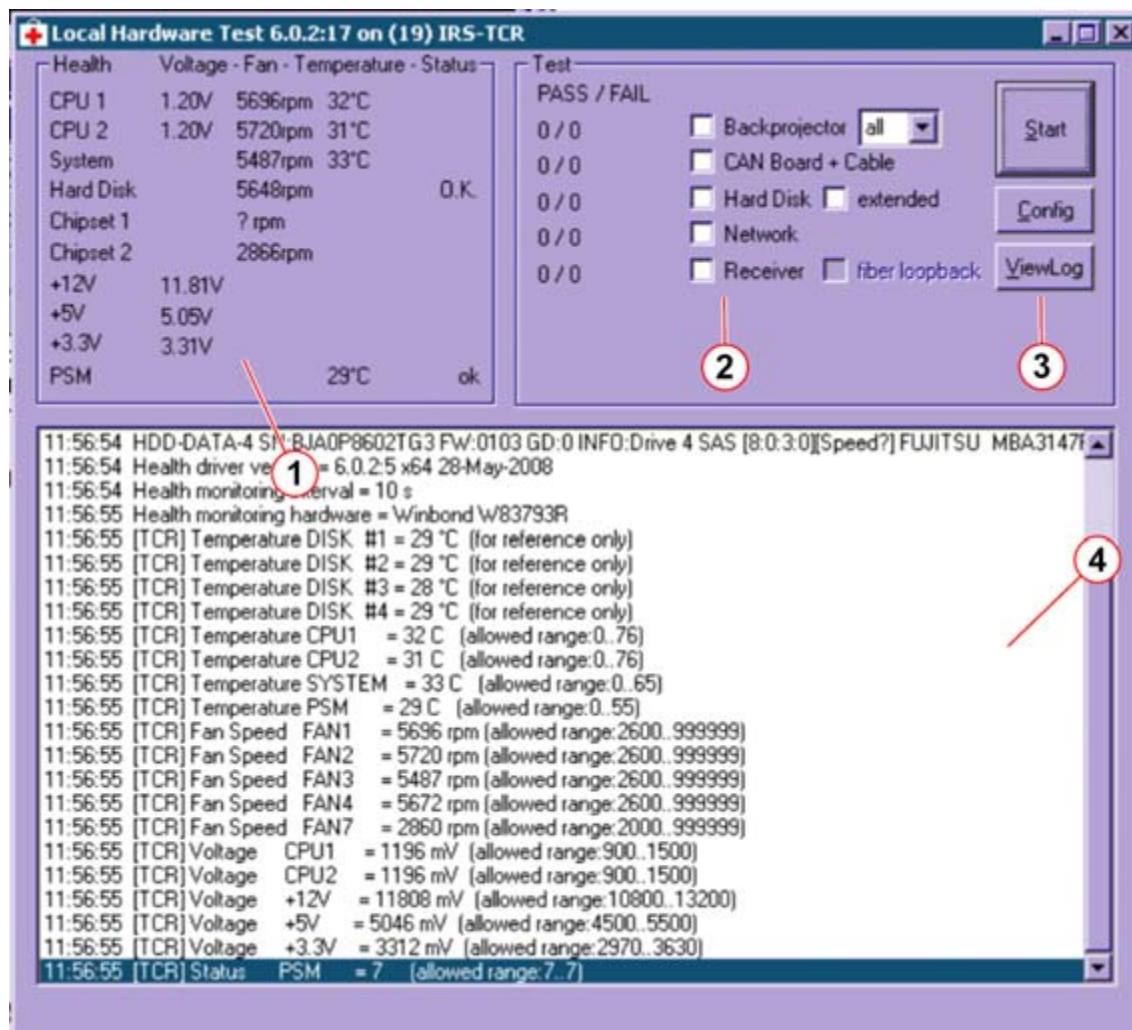

Fig. 63: Local hardware test
3. The following conditions can be checked in the Health monitoring window (Fig. 63 / p. 102):
In addition, a summary displays the number of test passes and failures \(2/Fig. 63 / p. 102\).